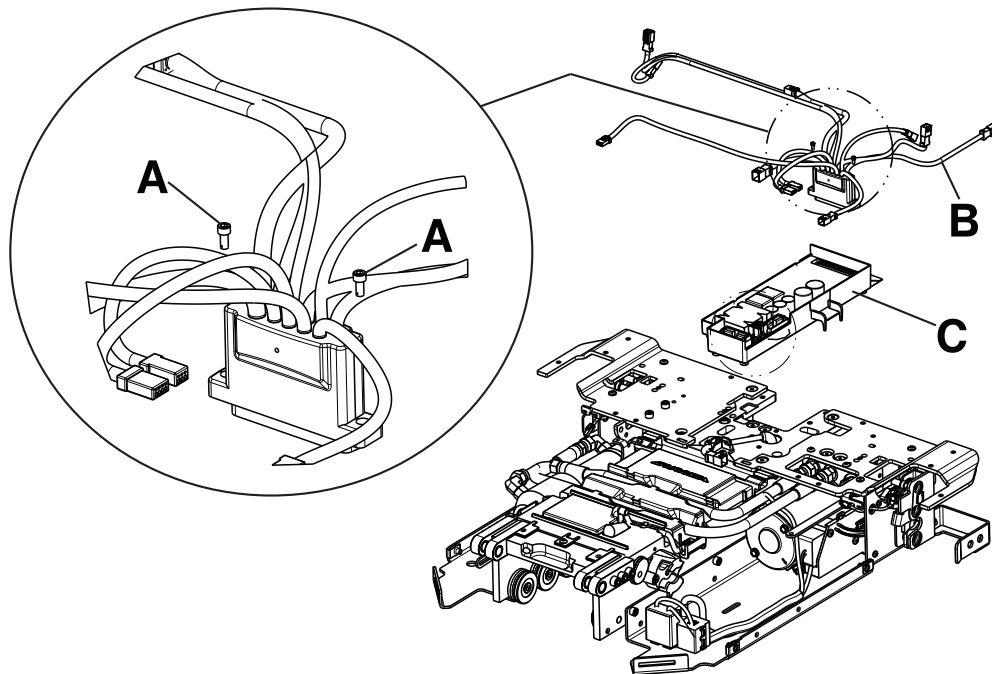

Figure 15 – Control board assembly
2. Using a 3/32" hex wrench, loosen (do not remove) the two screws (A) that secure the main cable assembly (B) to the control board assembly (Figure 15).
3. Unplug all of the other cables from the control board assembly (C). Remove and discard the control board assembly (Figure 15).